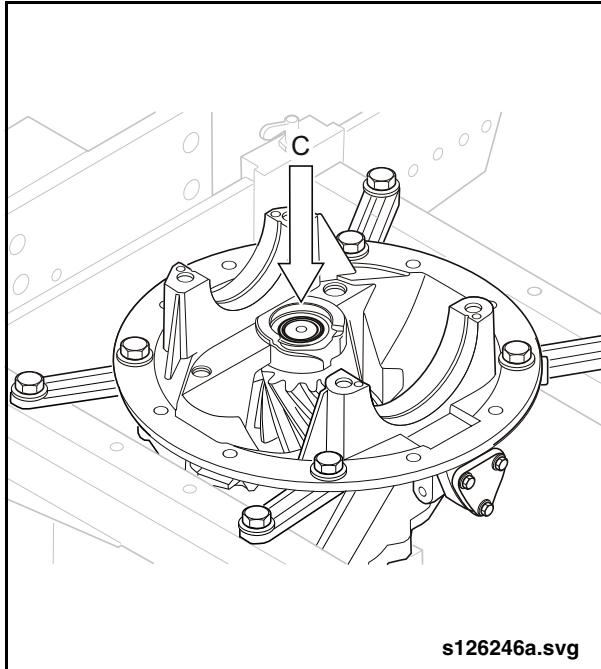

Fig. 2-85: Dimension "C"
5. Record the dimension stamped on the end face of the pinion gear as Dimension "C". See "Fig. 2-85: Dimension "C"" on page 71.